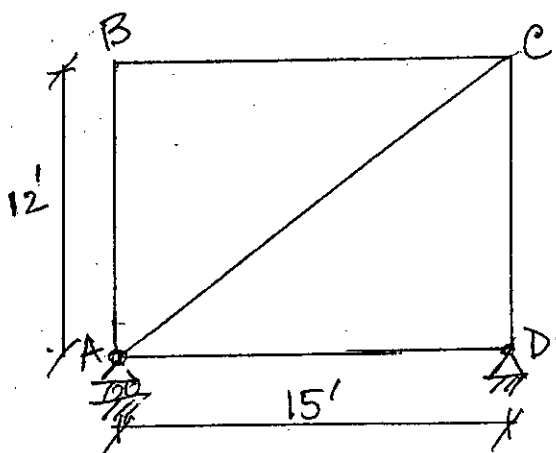

Fig. 3
4. The member AC of the truss shown in Fig. 3 is fabricated 1 inch longer than specified. After fabrication of the truss, the temperature drops by 40° F on a cold day of the winter. Calculate vertical deflection at joint C of the truss due to misfit and drop of temperature. Given: AE is constant. Thermal expansion coefficient, $\alpha = \frac{1}{150,000}$ per °F. Use virtual work method. (28)
(b) A rectangular beam has width 14 in. and effective depth 24.5 in. as shown in Fig. 3. It is reinforced with eight No 9 bars in two rows ($d = 24.5''$, $d_t = 26.0''$). What is the nominal flexural strength M_n and what is the maximum moment ϕM_n that can be utilized in the design?